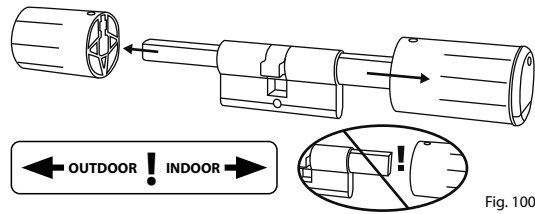

Fig. 100
- 3 Pull off the knob on the outside completely and pull the knob on the inside as far back as possible (Fig. 100).